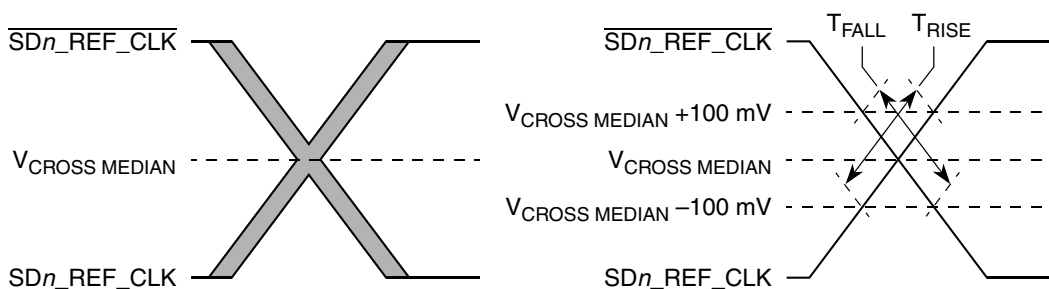

Figure 64. Single-Ended Measurement Points for Rise and Fall Time Matching
- 4 Matching applies to rising edge rate for SDn_REF_CLK and falling edge rate for $\overline{SDn_REF_CLK}$. It is measured using a 200 mV window centered on the median cross point where SDn_REF_CLK rising meets $\overline{SDn_REF_CLK}$ falling. The median cross point is used to calculate the voltage thresholds the oscilloscope is to use for the edge rate calculations. The Rise Edge Rate of SDn_REF_CLK should be compared to the Fall Edge Rate of $\overline{SDn_REF_CLK}$, the maximum allowed difference should not exceed 20% of the slowest edge rate. See Figure 64.